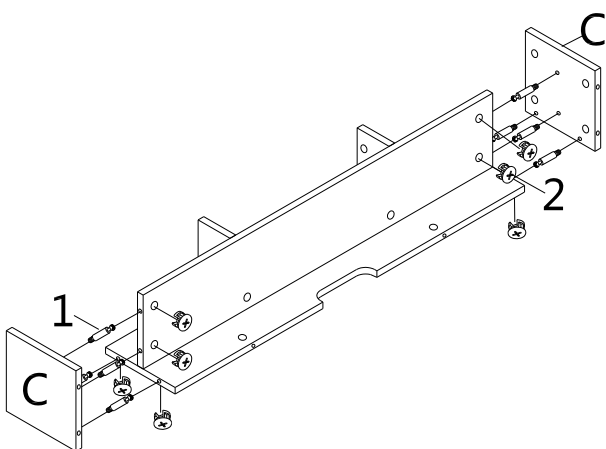

Figure 4
Insert Cam Locks (2) into predrilled holes on Upper Shelf Panel (E) and Upper Rear Panel (F) as shown in Figure 4.
Insert Cam Locks (2) into predrilled holes on unit from Figure 4.
Attach Upper Top Panel (B) to unit from Figure 4 by inserting Cam Bolts (1) into corresponding holes until components meet.